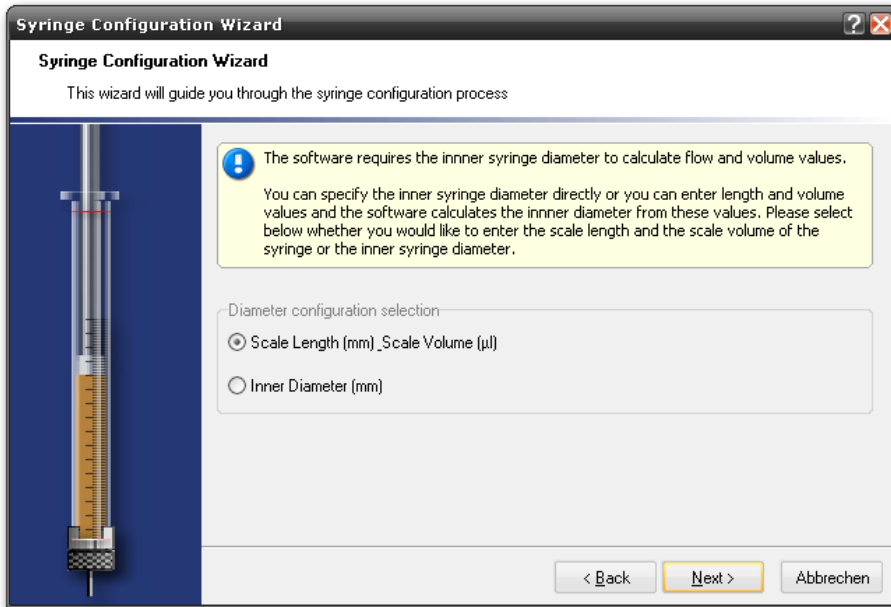

Figure 44 – Syringe Configuration Step 2 – Select Method
- (2) You should now configure the internal diameter of the syringe. The internal diameter of the syringe is required to calculate flow rates and dosage amounts. If you do not have the internal diameter you can define it as an alternative via the scale length in mm (*Scale Length*) and the volume it contains in  $\mu\text{l}$  (*Scale Volume*). The software calculates the internal syringe diameter from this. Select this step if you want to configure the syringe internal diameter (Figure 44). Depending on the selection continue the configuration at Point 3a or 3b. Click *Next* to move to the next step.